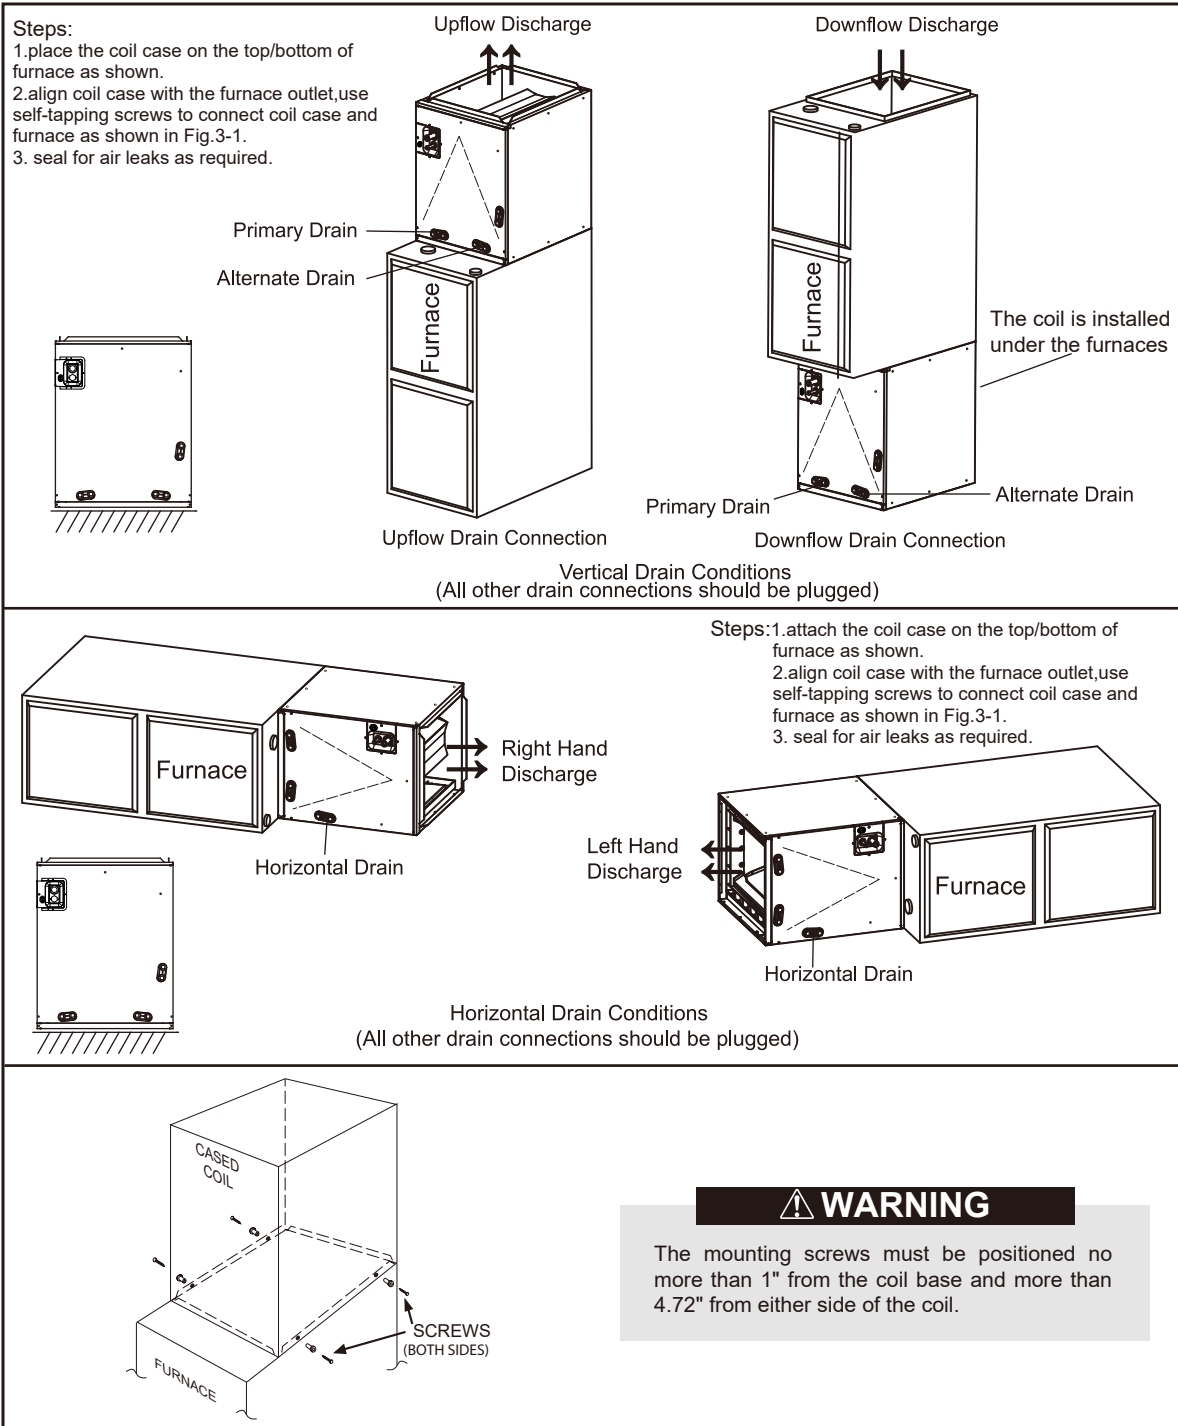

Fig. 3-1 INSTALLATION OF CASSED COIL
1. See Fig. 3-1 for coil installation and drain connection.
C. Ensure that the coil is leveled well and seal the gap between coil and furnace. See Fig. 3-1. In case that coil and furnace sizes are not matched, use proper size of sheet metal or other material to fill the gap and seal the gap to prevent air leak.